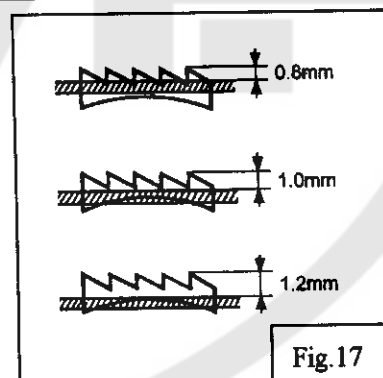

Fig.17
13. Adjustment of Feed dog height (Fig.17):